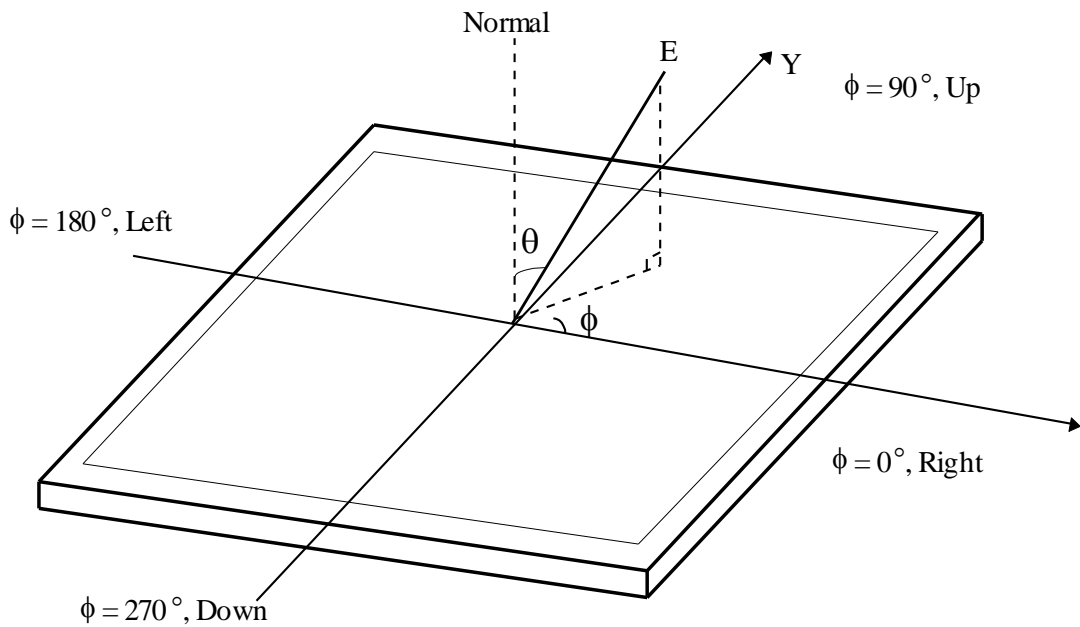

FIG. 4 Viewing Angle
5. Viewing angle is the angle at which the contrast ratio is greater than 10. The angles are determined for the horizontal or x axis and the vertical or y axis with respect to the z axis w h i c h is normal to the LCD module surface. For more information, see the **FIG. 4**.